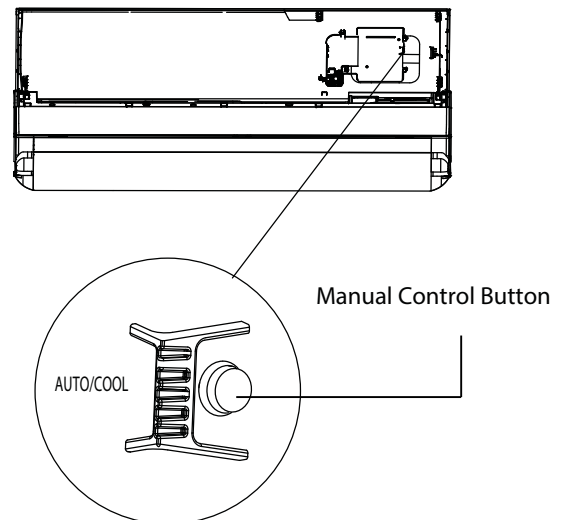

Fig. 31 —Test operation
1. **MANUAL CONTROL** is located on the right-hand side of the display box located on the front panel of the indoor unit (see Fig. 31). Press the button two times to select the **COOL** function. Perform a Test Run as normal.